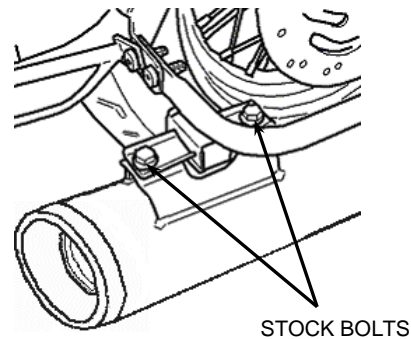

FIGURE 6
12. Slide the muffler assembly onto the rear headpipe collector outlet. Secure the muffler assembly to the stock sliding hanger on the frame using the stock bolts and tighten to factory specifications. Adjust the muffler fore and aft so that the stock slider is centered in the rubber mount. Then rotate the muffler around the axis of the collector so the muffler is hanging straight down from the rubber mount while being viewed from the back of the motorcycle. When the muffler is positioned correctly then tighten the muffler clamp. See **FIGURE 6**.